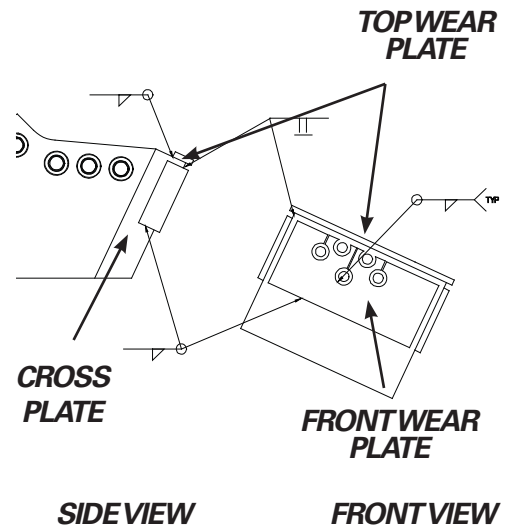

FIGURE 5-25
4. Position the new front wear plate so it is centered across the width of the cross plate. The holes in the wear plate should be aligned with the holes in the nose plate to leave a gap between the top of the wear plate and the top of the nose plate that will be filled with weld later (see figure 5-25). Clamp the wear plate into position, bring the preheat back up to 400°F (200°C) and tack weld in place.